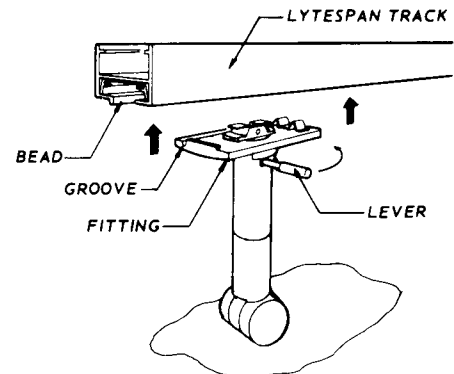

FIG. 1
1. Align BEAD on LYESPAN TRACK and GROOVE in FITTING before inserting into LYESPAN TRACK. See Fig. 1. (If BEAD is NOT aligned, a potential hazard may result.)
2. Position LEVER as shown in Fig. 1.